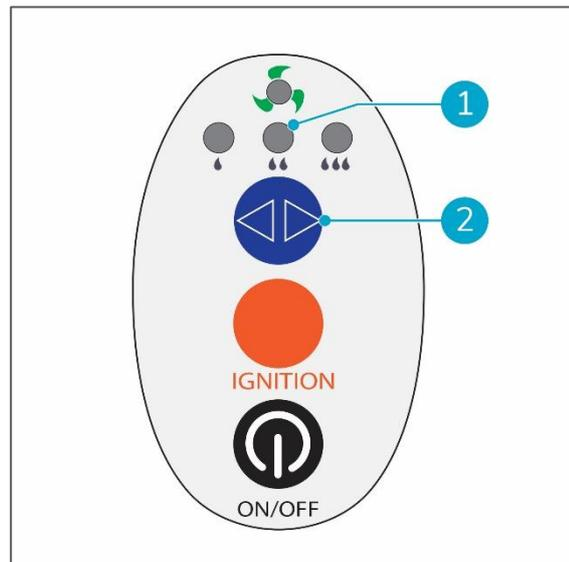

Figure 17
3. Turn on the i-gum® using the main power switch on the bottom (Figure 17, pos 2) left of the body.
4. Check the battery power indicator (Figure 17, pos. 1) (see 6.1.1 for charging the built-in battery.)
10. Press the ON/OFF button (Figure 17, pos 8) on the handle control.
11. Press the H/M/L multi function button (Figure 17, pos 5).
13. Check the rinse indicator light (Figure 17, pos 4). When the indicator light L is on, the pump runs in full speed.
14. Release the H/M/L multi function button (Figure 17, pos 5) when rinse indicator light is on.
15. Press the SELF-LOCK button to start the gas flow (Figure 17, pos 8).
16. Press the IGNITION button (Figure 17, pos 6) for 2 seconds. You can hear the gas heater is burning. The pump starts.
18. Check the H/M/L indicator light (Figure 17, pos 4). The pump will default operate at low speed (see 6.3.1).
1. Press the H/M/L multi function button (Figure 17, pos 2).
2. Check the H/M/L indicator light (Figure 17, pos 1).